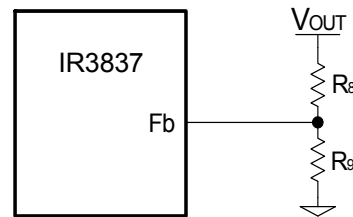

Fig. 16. Typical application of the IR3837 for programming the output voltage
When an external resistor divider is connected to the output as shown in figure 16. Equation (8) can be rewritten as: